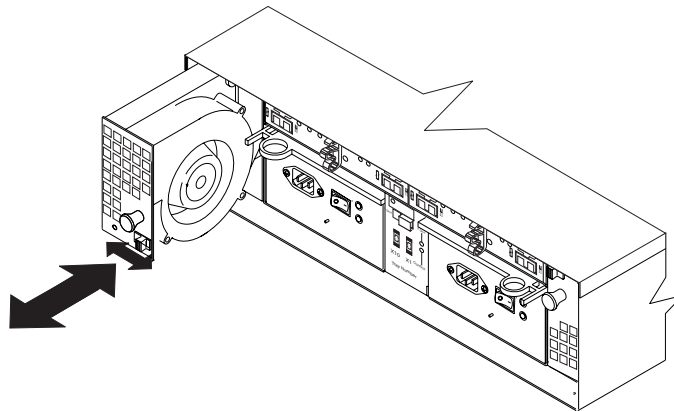

Figure 25. Replacing a fan
2. Ensure that you move the fan latch in the same direction as the arrow before you slide the fan all the way into the bay. If the fan does not go into the bay, rotate it 180° (see Figure 25).